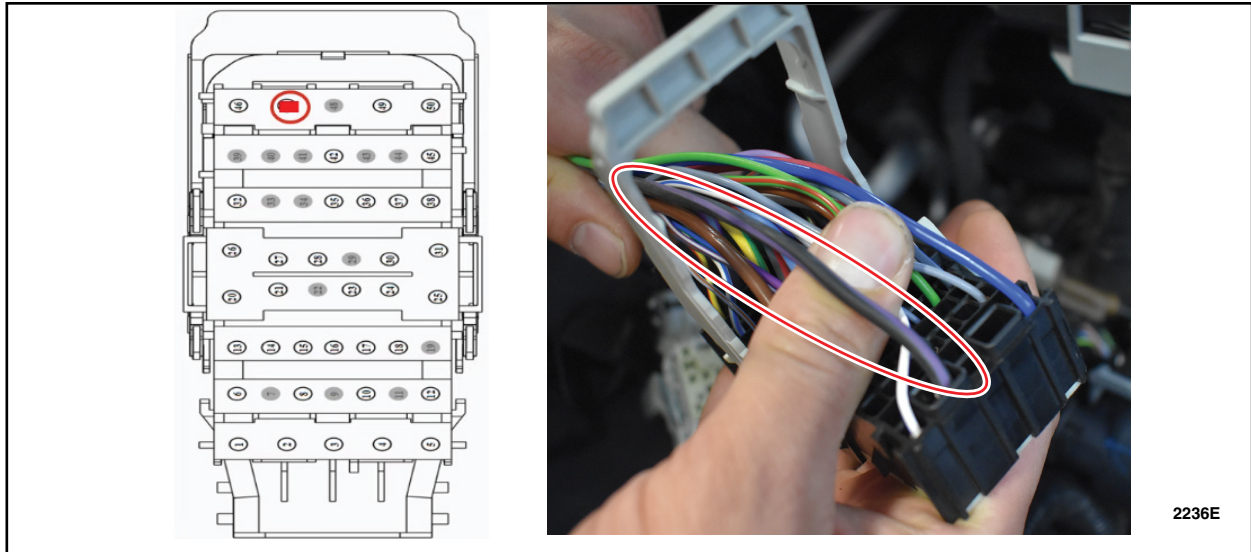

FIGURE 19
21. In connector C1035B identify cavity 47 which contains a black-violet wire. See Figure 19.